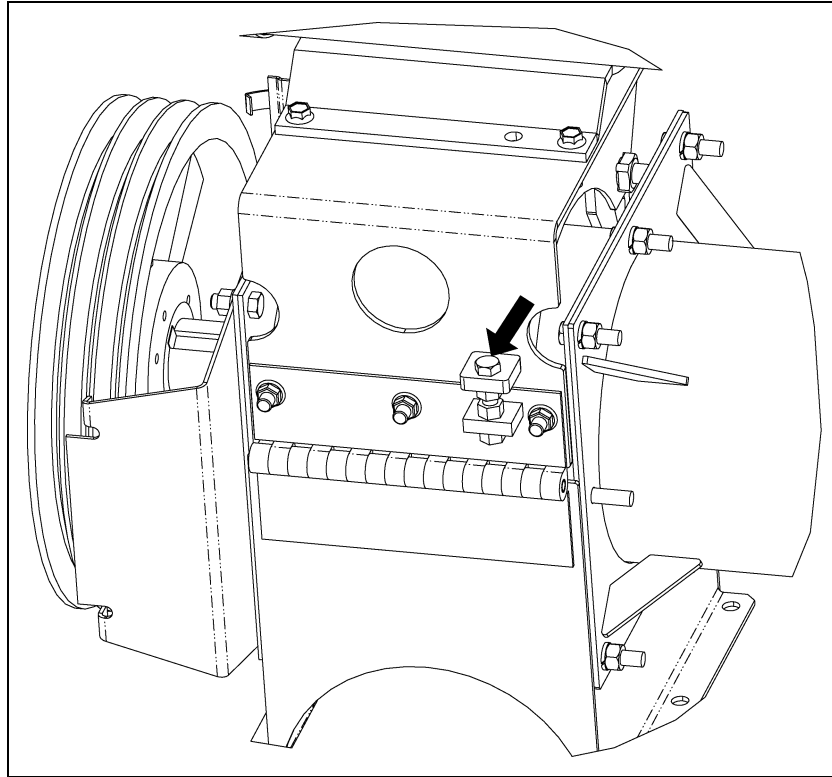

Figure 5AS
37. Tighten the drive belts to 3/16" deflection at 10-15 lbs. pivoting the motor down and re-tightening the two (2) 1/2" bolts loosened in Step 36 on Page 38. (See Figure 5AT.)